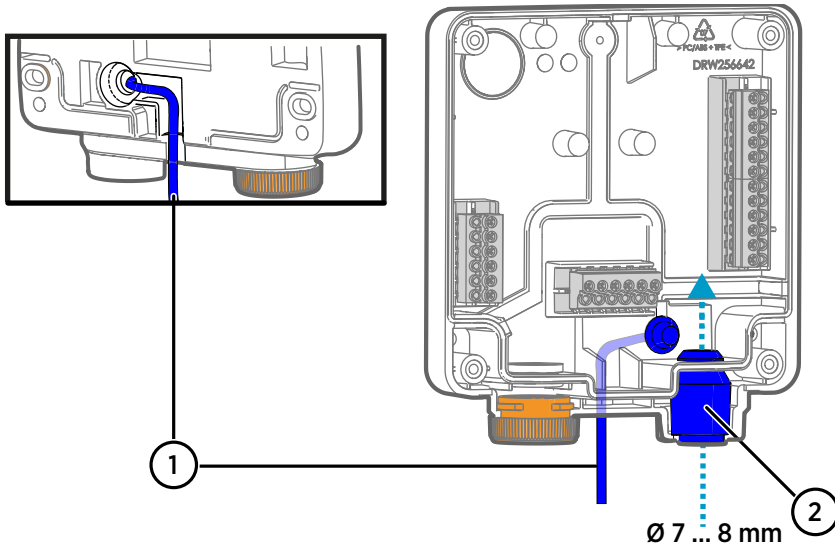

Figure 4 Indigo200 wiring options
- c. Nest the cable inside the groove on the back of the transmitter as shown in Figure 4 \(page 14\), and attach strain relief as needed.